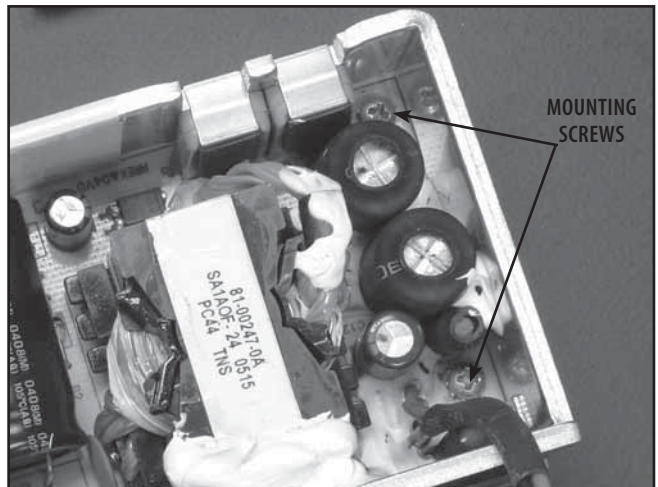

FIGURE 5.5
6. Remove the two Power Supply Mounting Screws and lift Power Supply from the Electrical Panel. See Figure 5.5.